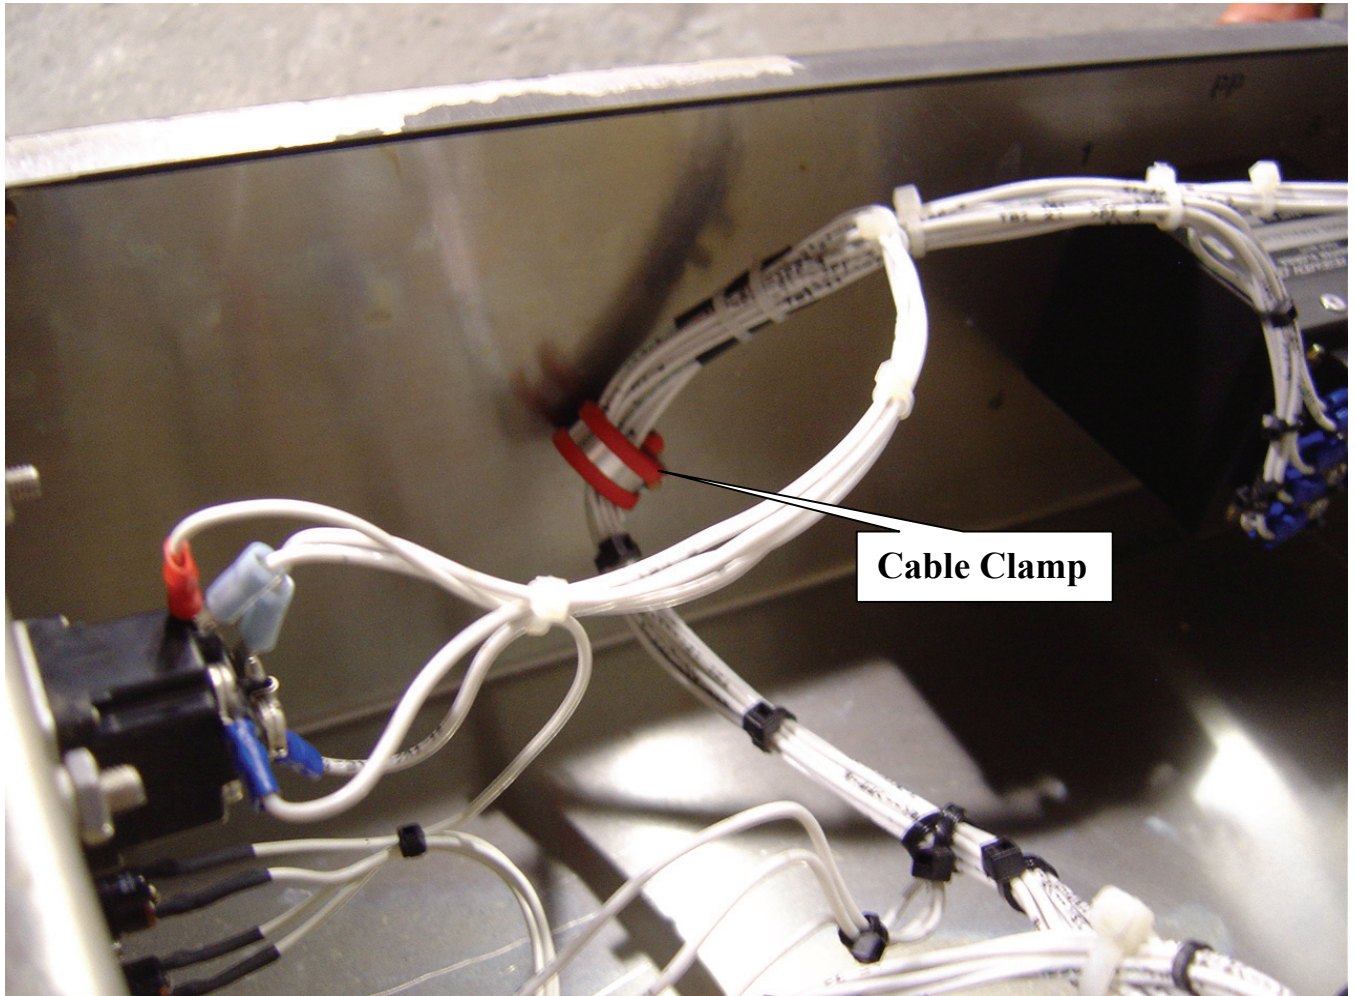

Fig 4
2. Install cable clamp as shown in Figures 4 and 6. Insert PP relay harness in clamp to keep harness away from the top edge of the frame.